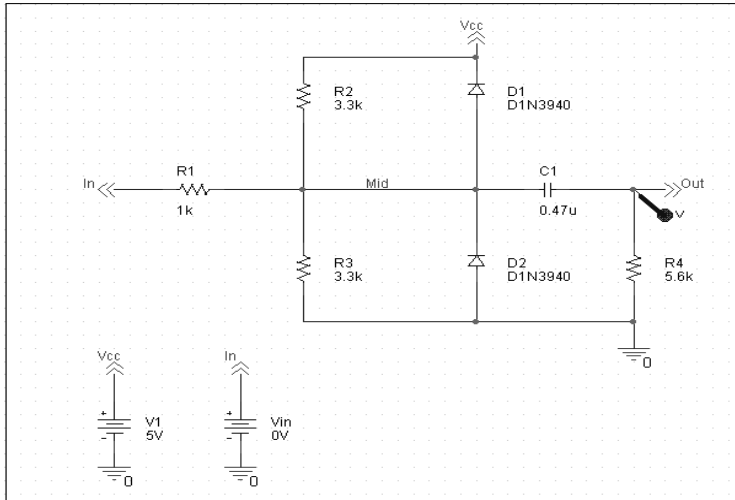

Figure 8 *Clipper circuit with voltage marker on net Out.*
- 2 Click to place a marker on net Out, as shown in Figure 8.